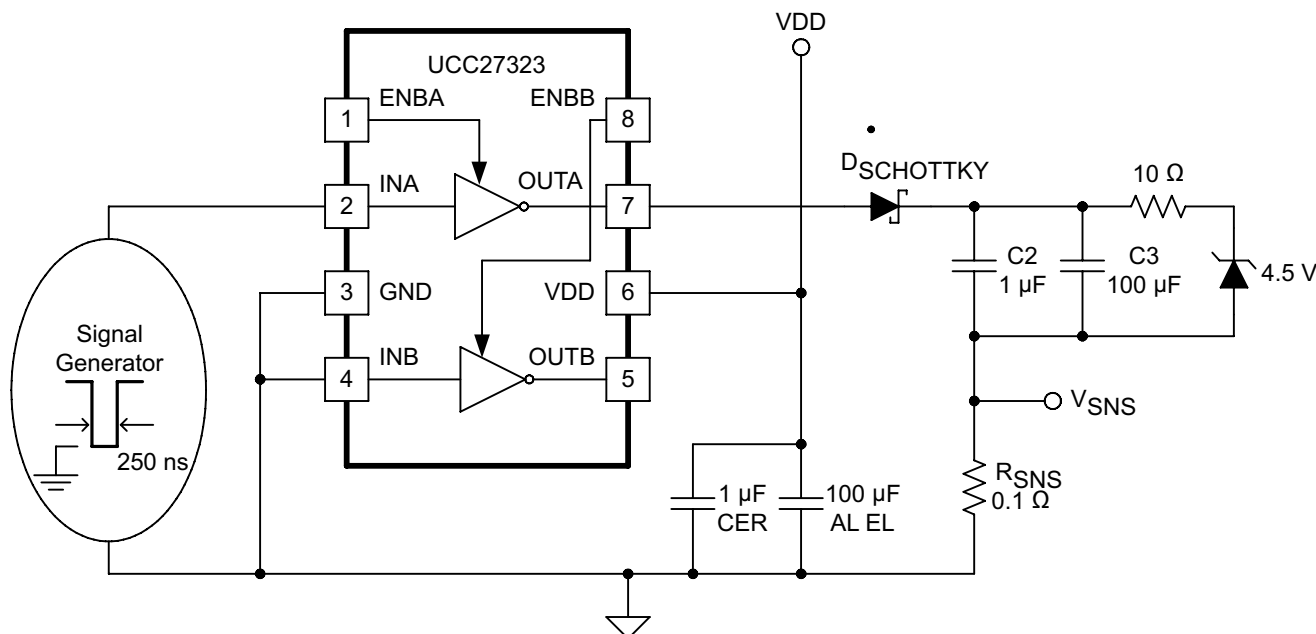

Figure 3.
The circuit shown in Figure 3 is used to test the current source capability with the output clamped to around 5 V with a string of Zener diodes. The UCC37323 is found to source 4.8 A at $V_{DD} = 15$ V and 3.7 A at $V_{DD} = 12$ V.
- Changed D_{SCHOTTKY} diode direction and voltage of zener diode from 5.5 to 4.5 V in Figure 3 8